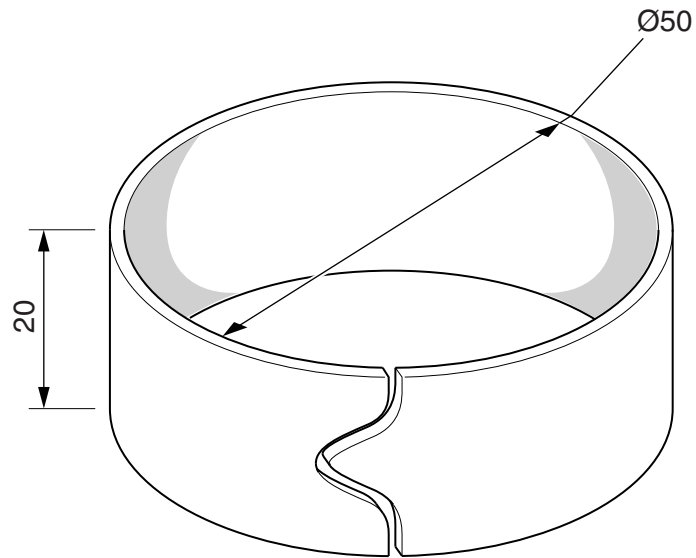

Fig. 11
17 The design for a napkin ring is shown in Fig. 11.
- (a) Suggest **two** possible sheet materials suitable for the ring shown in Fig. 11 and give reasons for your choice. [4]